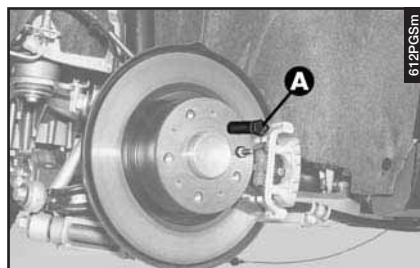

fig. 18
– Screw the centering pin (A-fig. 18) in one of the fastening bolt holes.